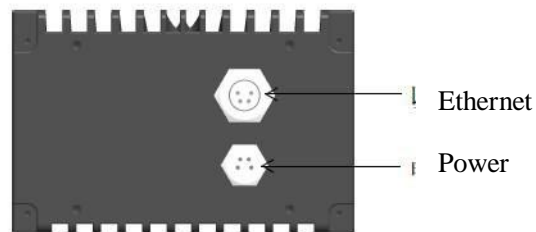

Figure 3 CE30-D aerial plug wiring instructions
- a. Use the two aerial plug cables attached in the package (including one power supply plug cable and one network port plug cable) to connect the LiDAR with the aerial plug cables as illustrated in Figure 3; connect the power interface to the adapter DC 12V ($\geq 3A$), DC 5.5*2.5mm; connect the aerial plug network port (RJ45) to the computer.